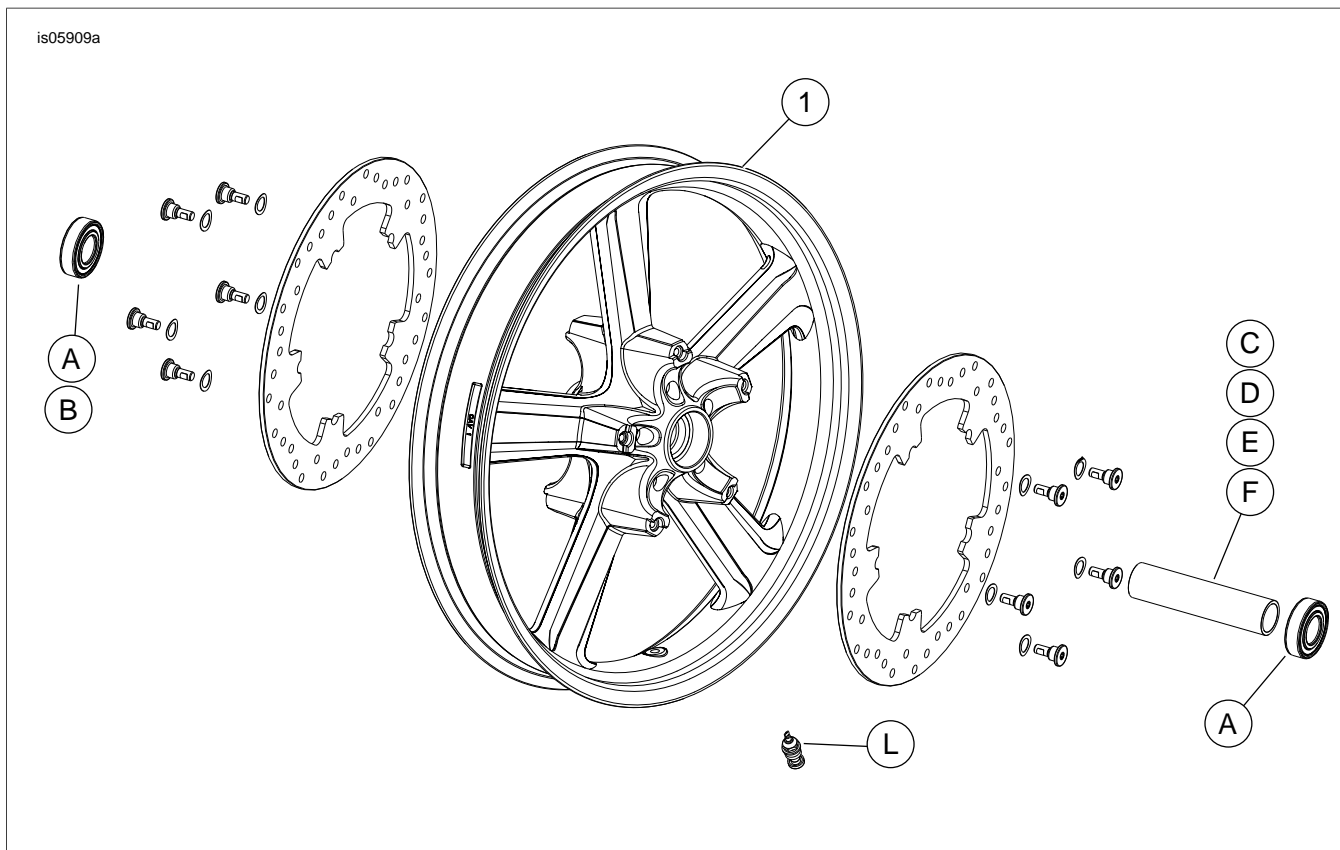

Figure 1. Front 5-Spoke Cast Aluminum Wheel
2. See Figure 1. Install valve stem assembly (M) on wheel following the instructions in the appropriate service manual.